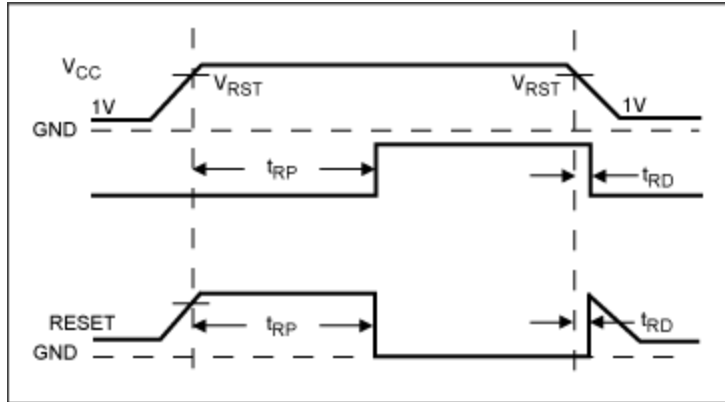

Figure 3. Reset timing relationship.
**Figures 3** and **4** show the timing relationships between incoming charger supply, Reset and Watchdog.